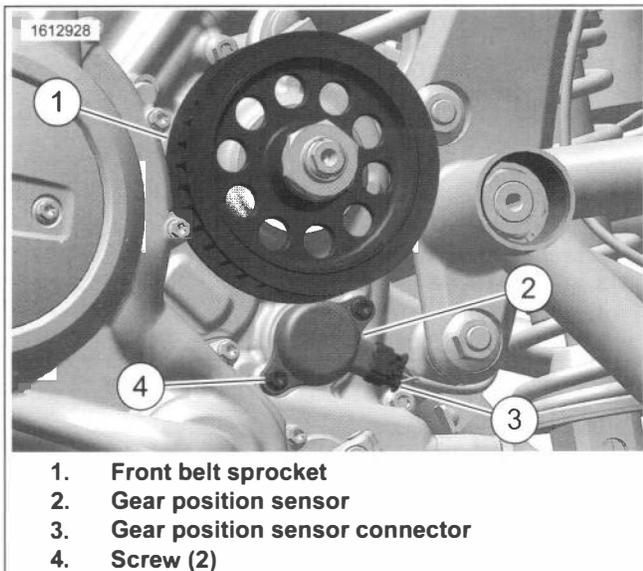
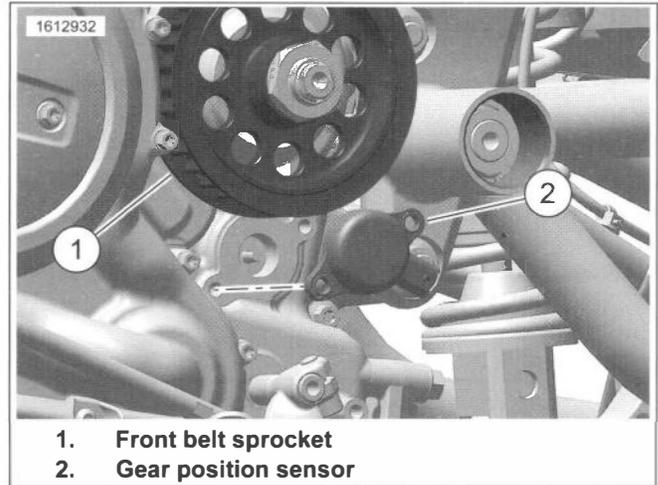

Figure 8-63. Gear Position Sensor Connector (Chain Removed for Clarity)
Figure 8-64. Gear Position Sensor
1. See Figure 8-63. Disconnect gear position sensor connector (3).
2. Remove screws (4).
3. See Figure 8-64. Remove the gear position sensor (2).
1. See Figure 8-64. Position gear position sensor.
2. See Figure 8-63. Install screws (4). Tighten.